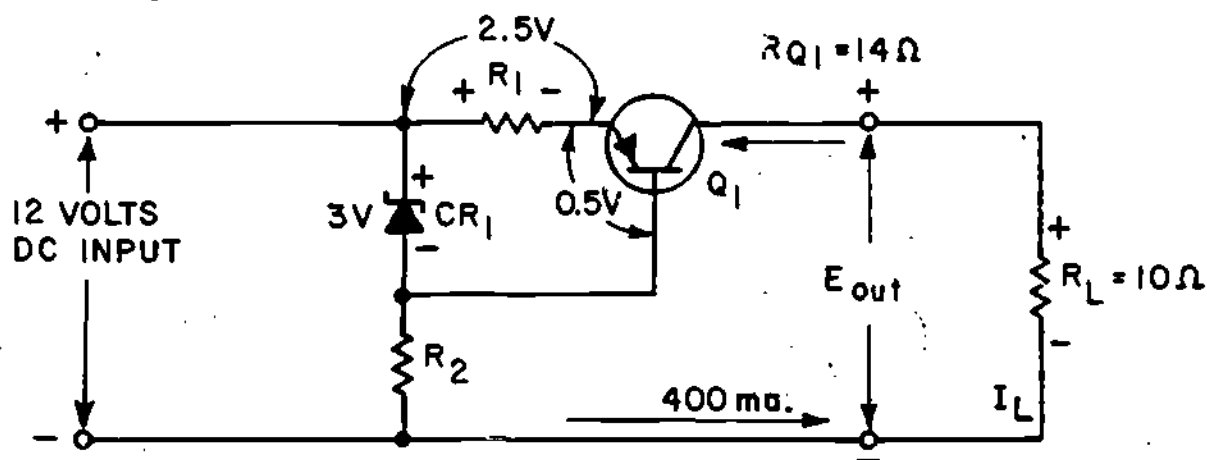

FIGURE 29
- (37.) Since you are familiar with the basic current regulating circuitry, let's examine in detail how the various components work to maintain the constant 400 milliampere output. Refer to the schematic shown in Figure 29.